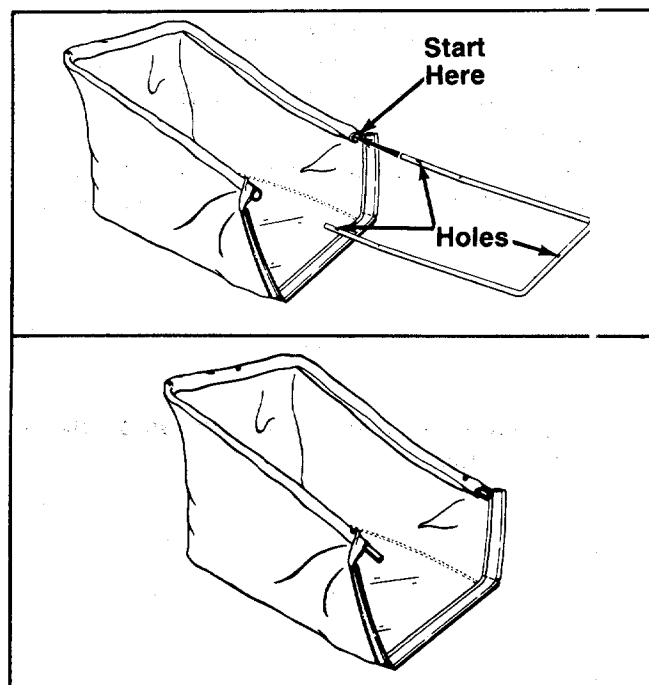

FIGURE 13.
1. There are three holes in the rear frame. With the holes on the upper side as shown in figure 13. Insert one end of the rear frame into the cloth channel on the edge of the grass catcher bag. Feed all the material on one side of the frame before working it around the frame. See figure 13.